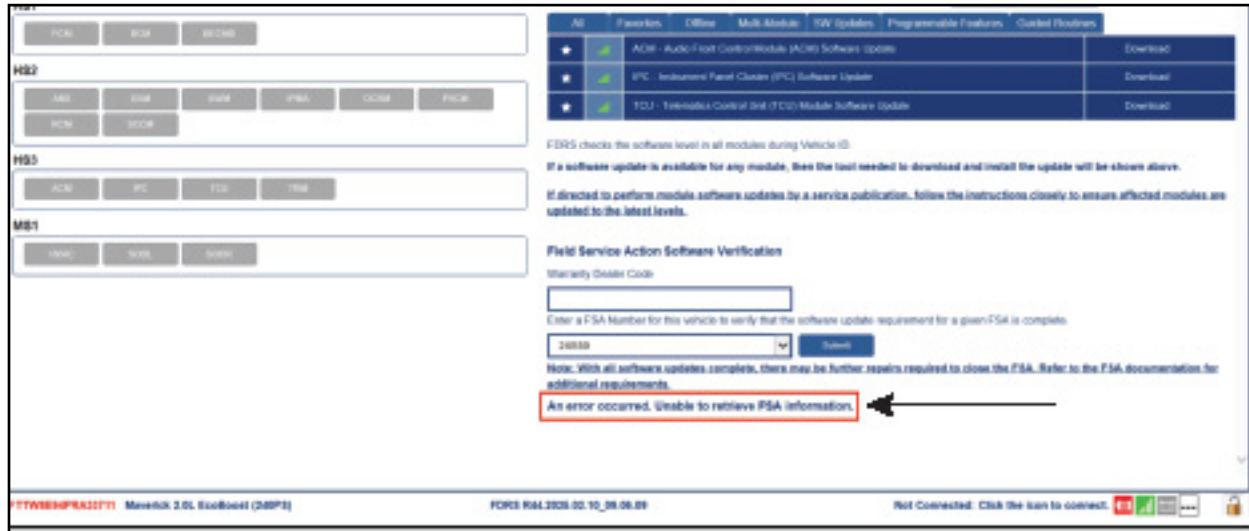

FIGURE 6
22. If the FDRS Field Service Action Software Verification Status displays **"An error occurred. Unable to retrieve FSA information"**, please reattempt to generate an SVC code. The error can be caused by a connectivity or server issue where the status of the FSA cannot be verified. This is typically resolved upon reattempting to generate an SVC code. See Figure 6.